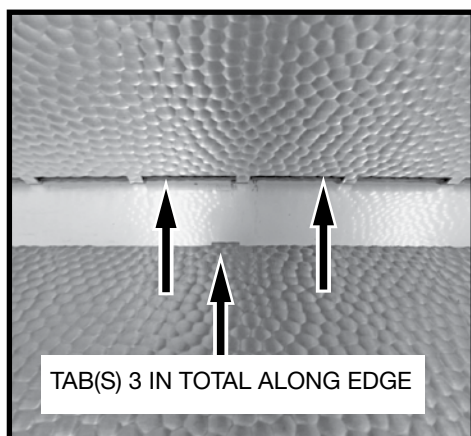
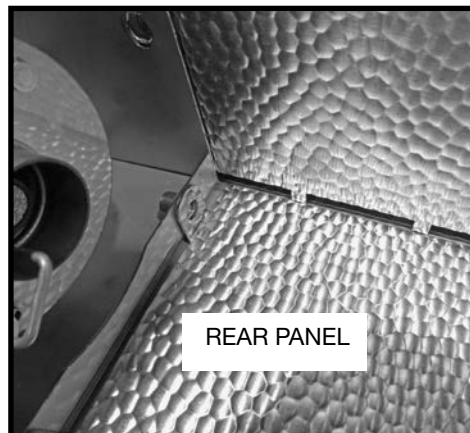
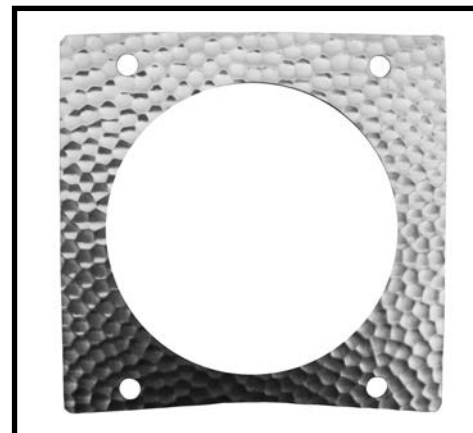

Figure 39: Tabs to slide underneath the air vents.
Figure 40: Rear decorative panel in place with screw holes lined up.
Figure 41: Curvature of end cover plate.
3. Position the rear decorative panel into place by sliding the edge with the 3 tabs underneath the panel with the air vents until it lays flat in the firebox cavity (Figure 39 and Figure 40) and the holes line up for the end covers line up. Ensure that the curved edges of the end covers are placed against the rear plate (Figure 41).